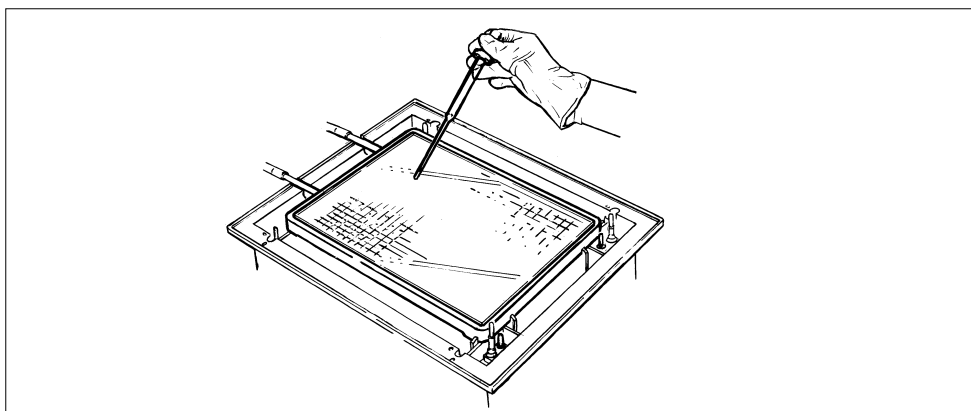

Fig. 24.
- Place approximately 2.5-3.0 ml of DryStrip Cover Fluid on the cooling plate of Multiphor II (Fig. 24).